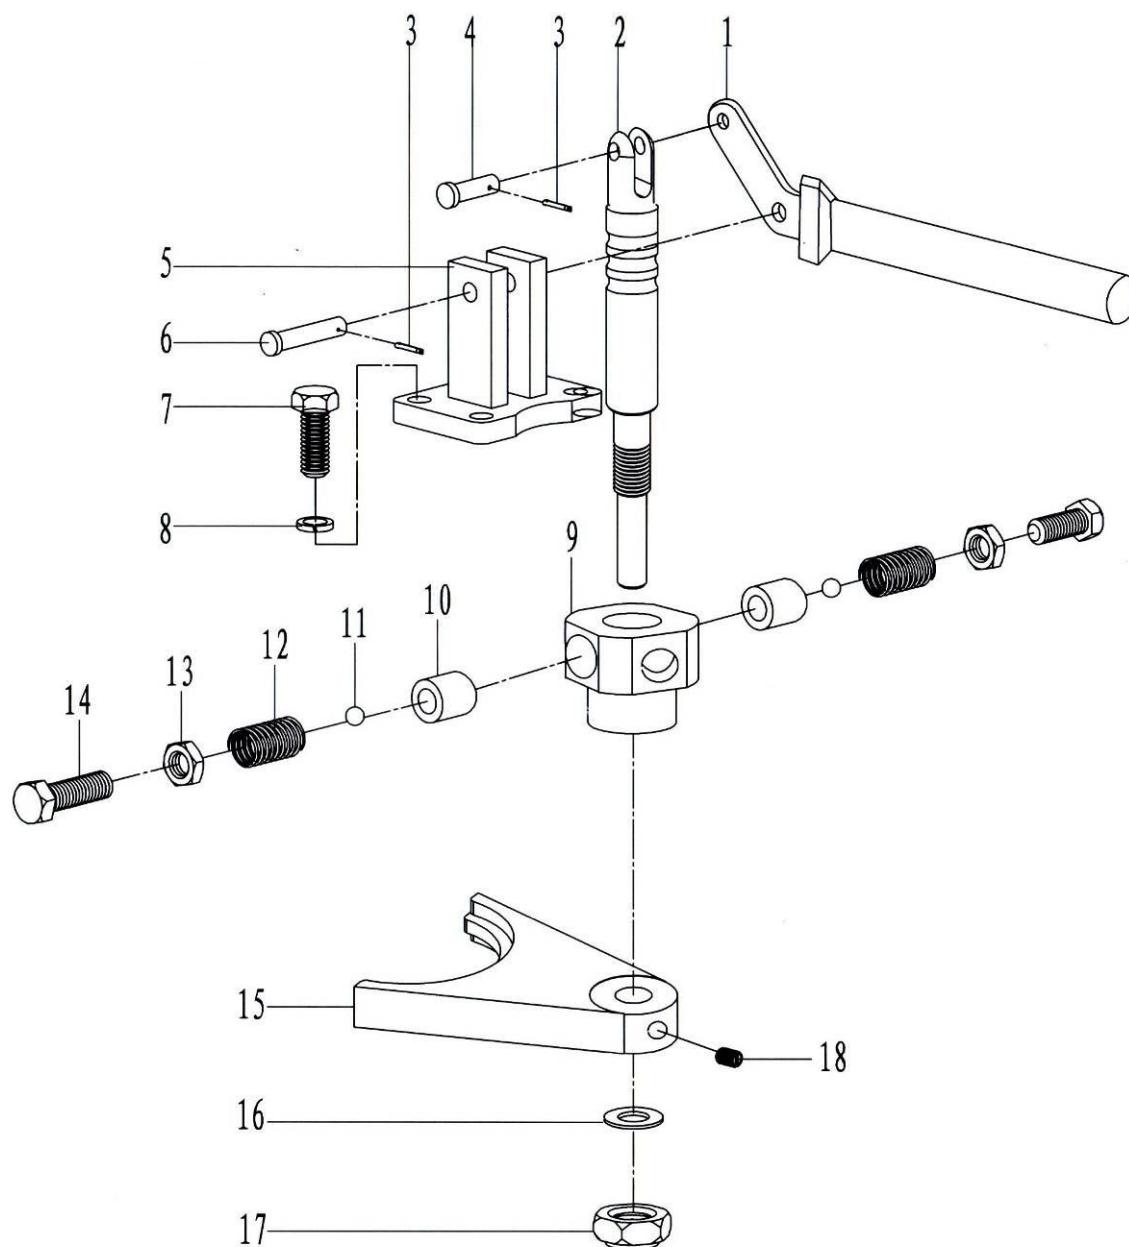

Fig. 17
7.1.10 Shifter assembly(Fig.17, Table.12)